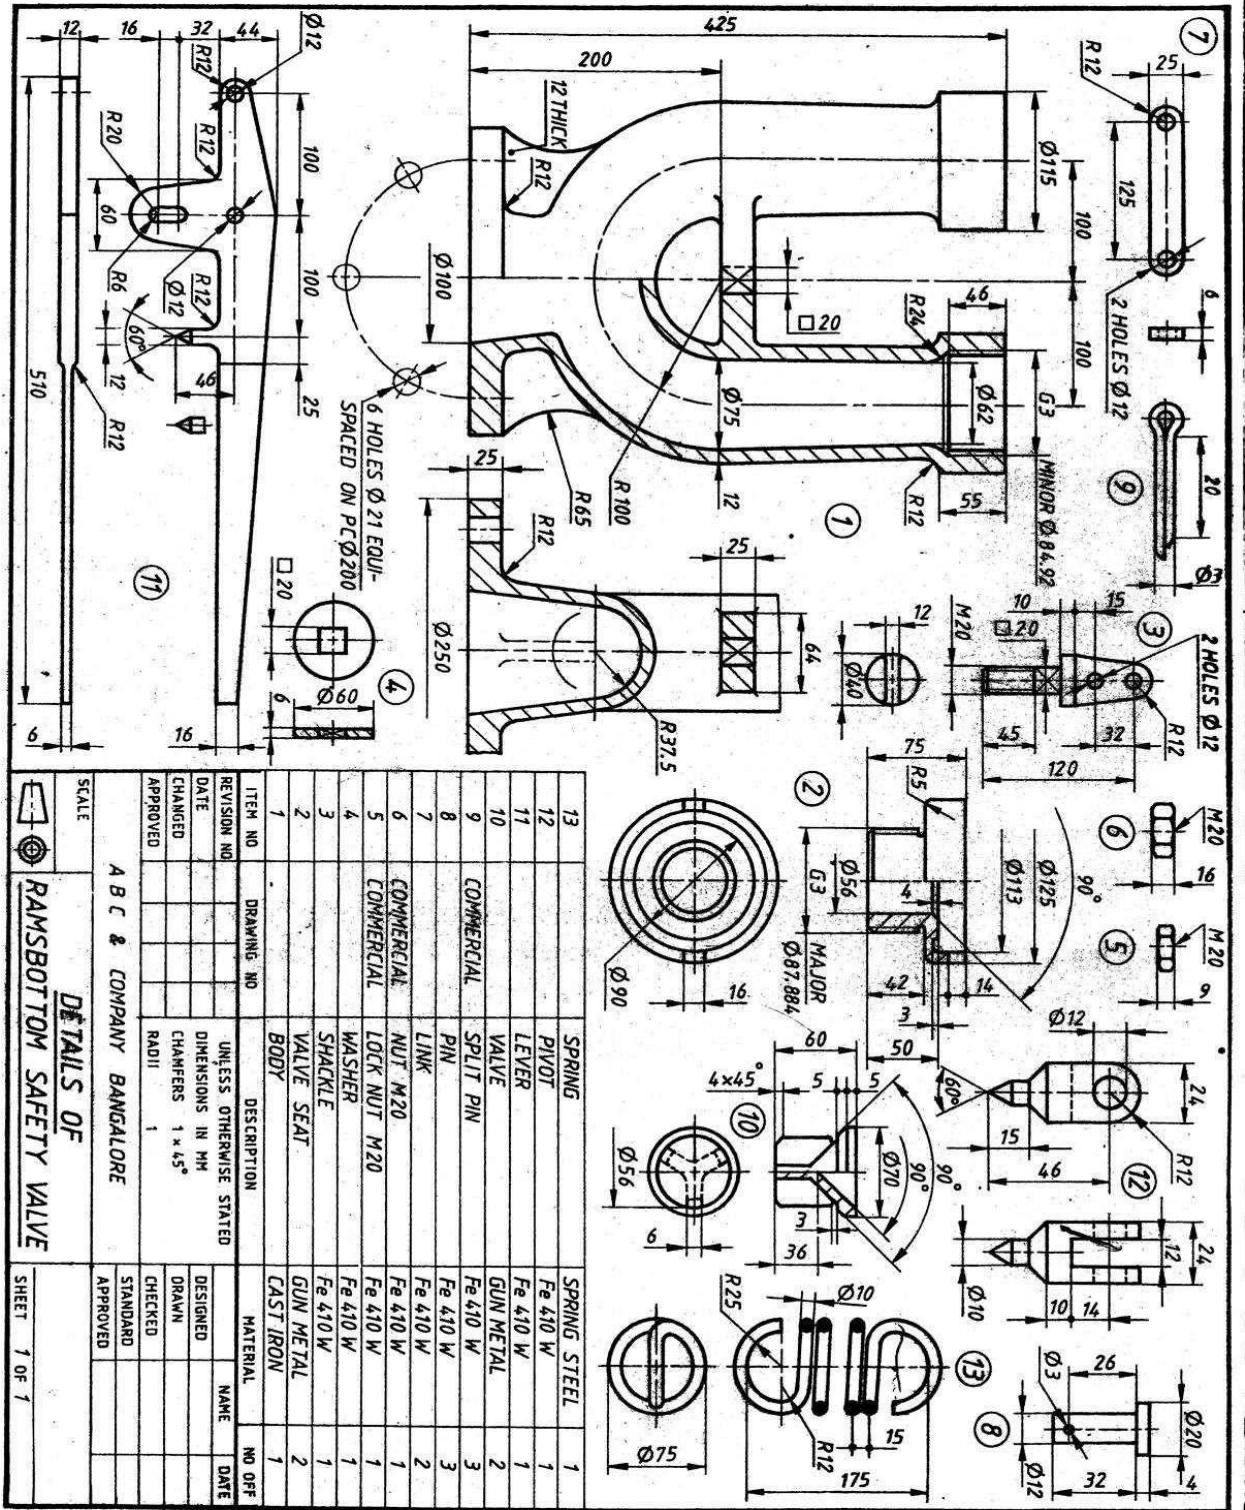

Figure 2 RAMS BOTTOM SAFETY VALVE
6. Details of 'RAMS BOTTOM SAFETY VALVE' are shown in following Figure 2. Assemble the parts and draw the following views of the assembly.